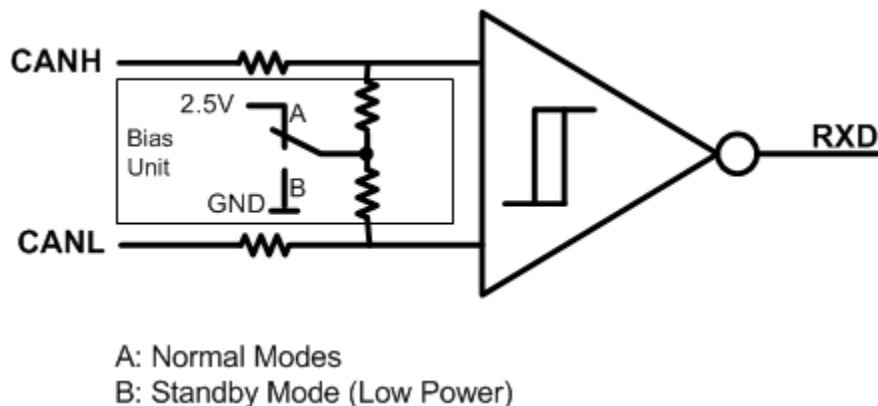

图 14. Bias Unit (Recessive Common Mode Bias) and Receiver
- (1) H = high level, L = low level, X = irrelevant, Z = common mode (recessive) bias to $V_{CC} / 2$. See and 图 14 for bus state and common mode bias information.
- (2) Devices have an internal pull up to V_{CC} or V_{IO} on TXD terminal. If the TXD terminal is open the terminal will be pulled high and the transmitter will remain in recessive (non-driven) state.